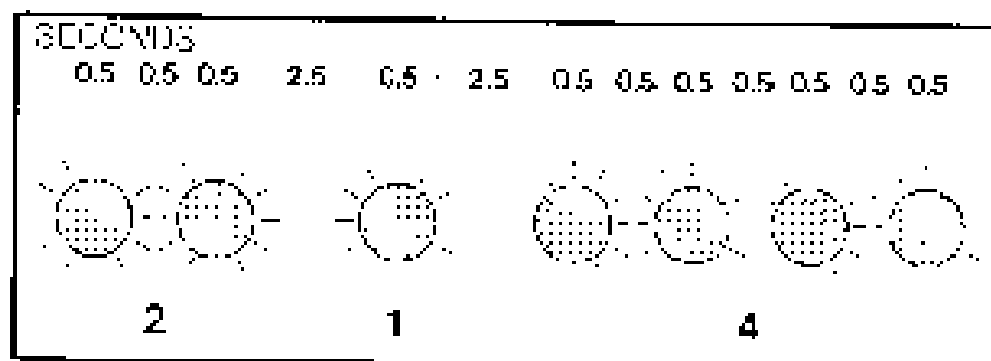

Fig. 2: Counting Red LED Code Flashes
2) Watch the Red LED and count the number of flashes in the three-flash series. The flash series are separated by a three-second interval. See Fig. 2. Note all codes. Only three separate codes can be stored at once. If no codes are stored, the LED will flash a 1-1-1 to indicate the fuel system is operating properly.